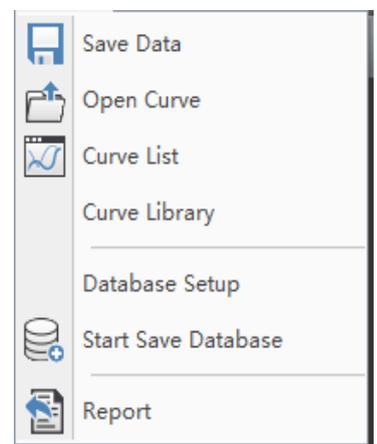

Figure 3.10 Data Menu
3.2.7 Data (D)
The drop-down menu of "Data (D)" is as shown in Figure 3.10. ###